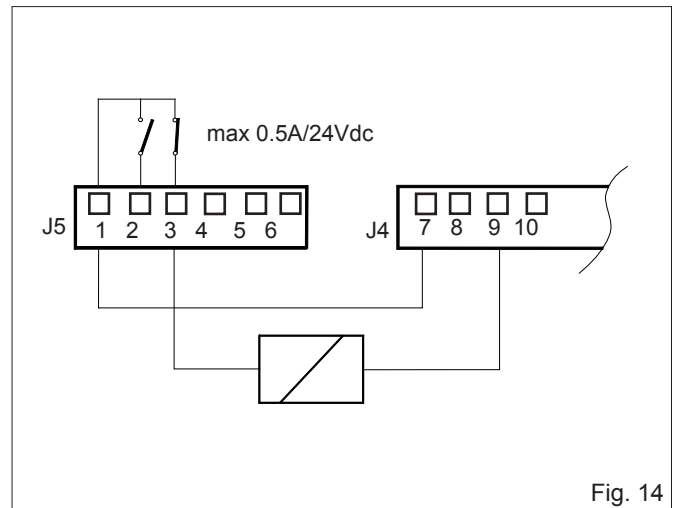

Fig. 14
- 3 Electric lock - N.C. contact (max. capacity 0.5 A/24 V)** (fig.14).